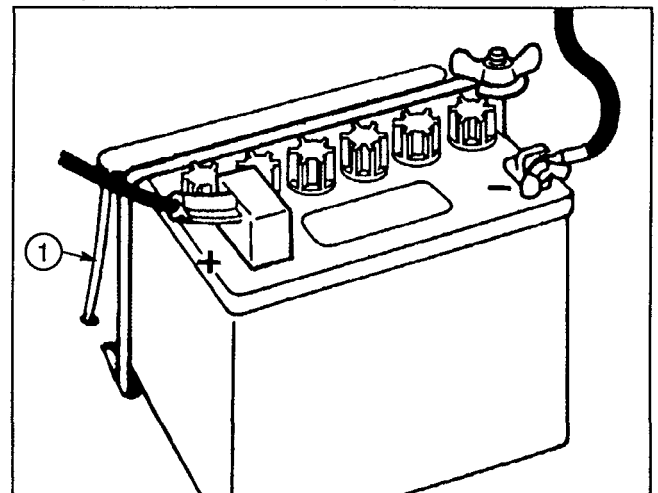

Figure 6
9. Install the battery with the terminal posts toward the rear of the machine and vent tube on left side of battery, thru hole in frame (Fig. 6).
11. Install the positive cable (rubber boot over end) to the positive (+) terminal and the negative cable (black) to the negative (-) terminal of the battery and secure with capscrews and wing nuts. Slide the rubber boot over the positive terminal to prevent a possible short-out from occurring (Fig. 6).